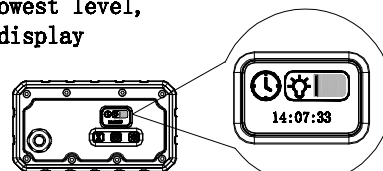

Figure 6
- (1) ⚙️ Light brightness adjustment button! Press this button on the main interface to start the light brightness adjustment function, press to adjust the brightness of one gear, and switch between the 4 gears! At the lowest level, the luminance display bar displays a half-bar! (figure 6)